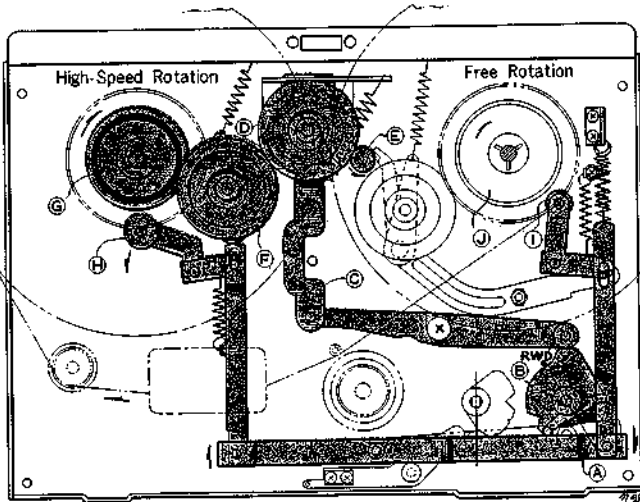

Fig. 4
Turning the *FAST FWD-REWIND knob (A)* to "REWIND" position, causes the *cam (B)* under the knob to push *Lever (C)* up. *Idler (D)* moves into the space between the upper part of the rotating *Motor drive bushing (E)* and the *Intermediate Pulley (F)* to transmit the high-speed rotation of the motor through the intermediate pulley to the *Supply Reel Spindle (G)*. At the same time, *Brake Rollers (H)* and *(I)* come off the reel spindle to free the *take-up reel spindle (J)*, thereby rewinding the tape onto the supply reel at a fast speed. (See figure 4)